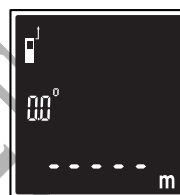

Fig. 4
- Press the button to set the top of the meter as the measuring reference. (Fig. 4)